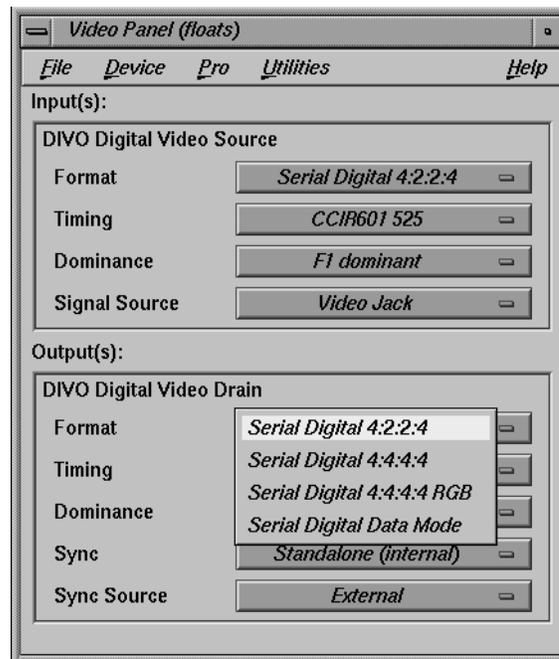

Figure C-3 Selecting Video Drain Format
3. In the Output(s): DIVO Video Drain section of the control panel, select the format that matches your equipment, as shown in Figure C-3.